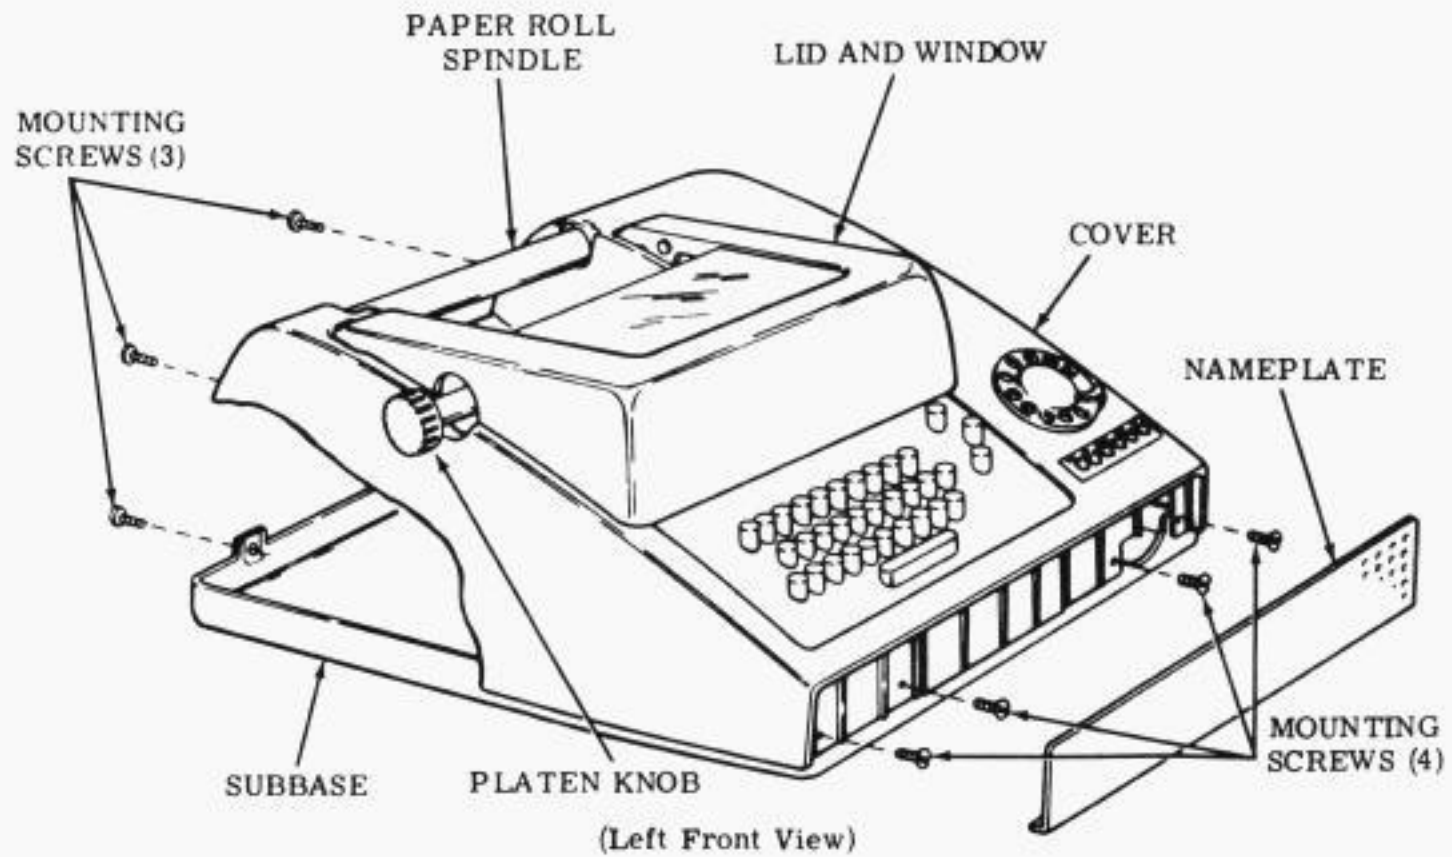

Figure 2 - Cover Mounting
- 1.10 Remove the call control bezel, if used, after removing its two mounting screws. Remove volume control knob or power switch rotary knob, if used, by pulling knob forward. Detach the nameplate (Figure 2) by pulling it down and out. Remove the four front and three rear cover mounting screws. If platen knob is mounted on typing unit, remove.